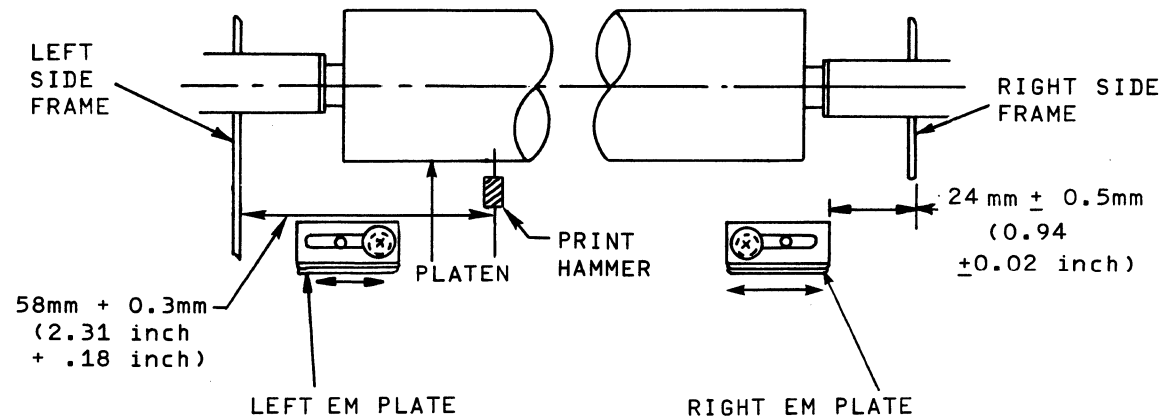

Figure 5-12 First Print Position and Right EM Plate Adjustment
##### 5.9.1 First Print Position (Figure 5-12)
- Position the right side EM plate  $24\text{ mm} \pm 0.5\text{ mm}$  ( $0.94 \pm 0.02\text{ inch}$ ) from the outside of the right side frame as shown in Figure 5-12.